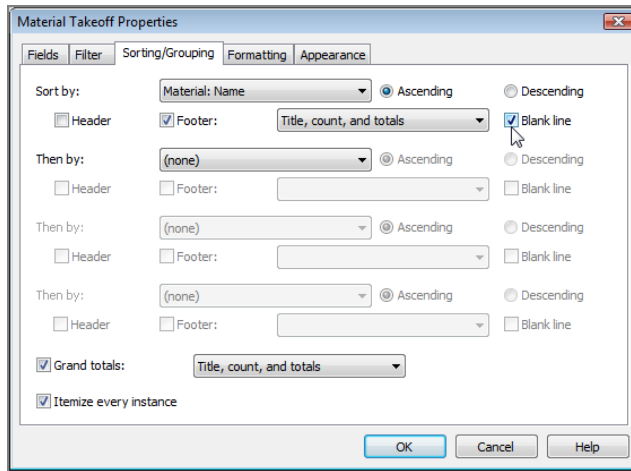

FIGURE 11.28: Configuring the parameters for the schedule
8. Choose Title, Count, And Totals from the menu, as shown in Figure 11.28.
12. Select the option Itemize Every Instance (see Figure 11.28).